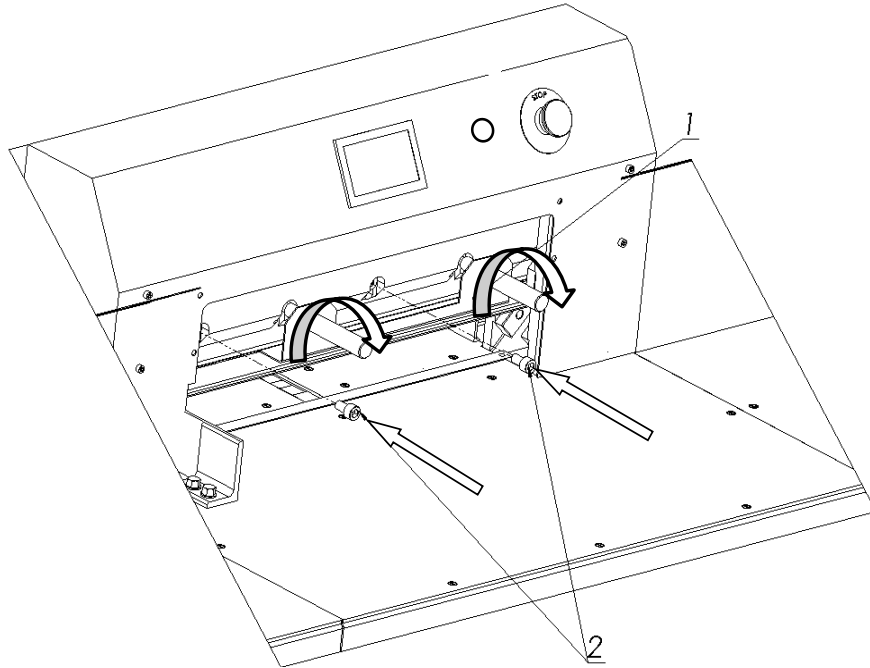

Figure 31.
8.1.2.4 Pre-attach the knife to the cutter bar by turning both transporting handles 1 to the right (fig. 31).
8.1.2.5 Install the fastening screws 2 (fig. 31).
8.1.2.6 Unscrew both transport lugs 1 (figure 31) and replace them with the mounting screws 1 ;
8.1.2.7 Slightly unscrew the first screw on the left side of the clamping screw 2 (Fig. 31), taking care that the screw head does not protrude above the knife beam sliding plane.
8.1.2.19. Firmly tighten the first screw on the left side of the knife. 2 (Fig. 31).